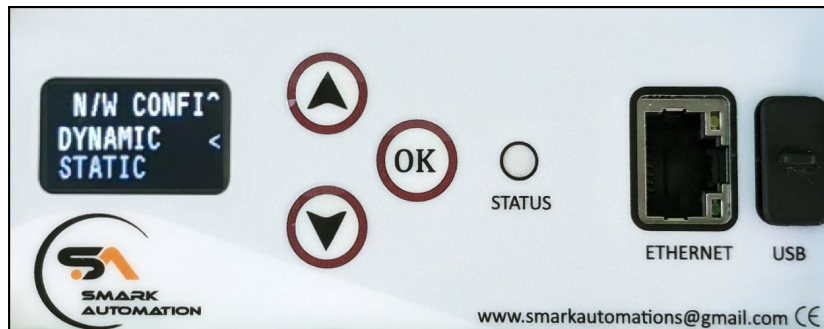

Figure 22: Network Type Configuration
2. **Select Network Configuration Type:** User need to choose the type of network configuration for device i.e. either Dynamic or Static as shown in Fig 22. This determines how the device will obtain its IP address and other network settings.